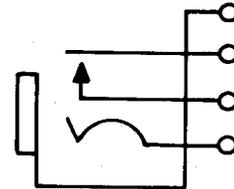

Fig. 1—215-Type Jack
2.01 215A, C, AM, and CM: These single-mounted jacks (Fig. 1) are used with 1D, 1E,